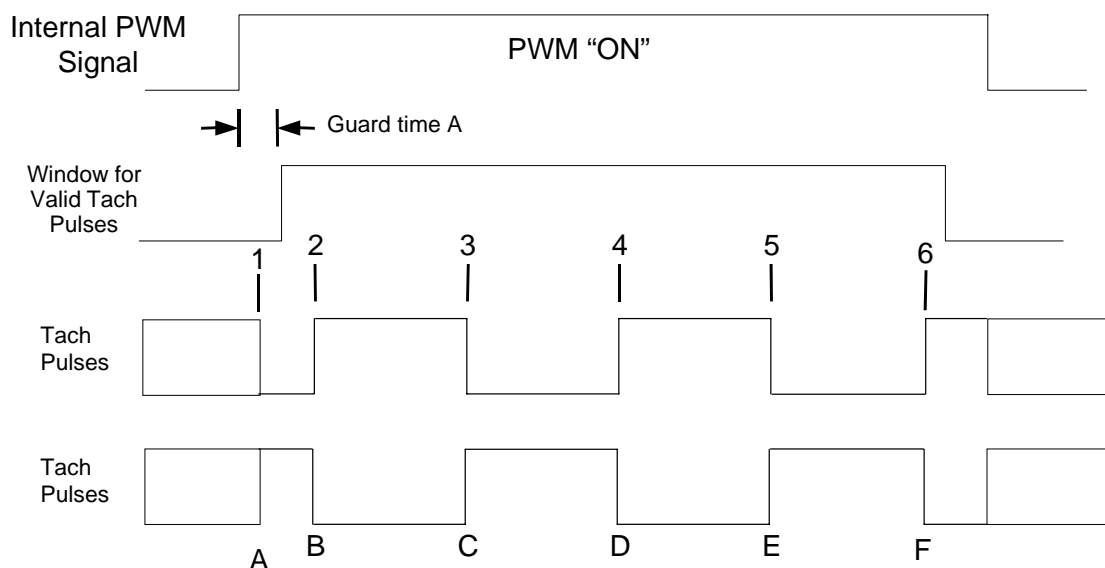

Figure 7.5 PWM and Tachometer Concept
7.1.4.4.1 ASSUMPTIONS (REFER TO FIGURE 7.5, "PWM AND TACHOMETER CONCEPT"):
The Tachometer pulse generates 5 transitions per fan revolution (i.e., two fan tachometer periods per revolution, edges 2→6). One half of a revolution (one tachometer period) is equivalent to three edges (2→4 or 3→5). One quarter of a revolution (one-half tachometer period) is equivalent to two edges. To obtain the fan speed, count the number of 90Khz pulses that occurs between 2 edges i.e., 2→3, between 3 edges i.e., 2→4, or between 5 edges, i.e. 2→6 (the case of 9 edges is not shown). The time from 1-2 occurs through the guard time and is not to be used. For the discussion below, an edge is a high-to-low or low-to-high transition (edges are numbered – refer to Figure 7.5, "PWM and Tachometer Concept").
- 2, 3, 5 or 9 “edges” to calculate the fan speed (Figure 7.5)
- Guard time A is programmable (8-63 clocks) to account for delays in the system (Figure 7.5)
As described in Assumptions \(refer to Figure 7.5, "PWM and Tachometer Concept"\): on page 39, the TACH detection circuitry expects a fan to deliver 5 TACH edges per full revolution. When measuring the fan speed using a PWM drive, the slowest fan speed that can be measured is dependent upon how long the PWM drive is high as well as how many edges are being counted to make a valid measurement.